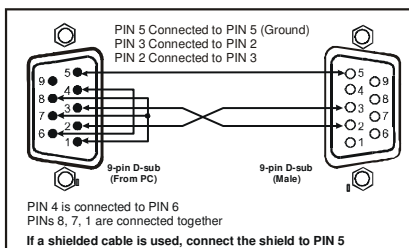

Figure 3: Connecting a PC without using a Null-modem Adapter
- Connect the RS-232 9-pin D-sub port on your PC to the RS-232 9-pin D-sub rear panel port on the **6502** unit, as Figure 3 illustrates